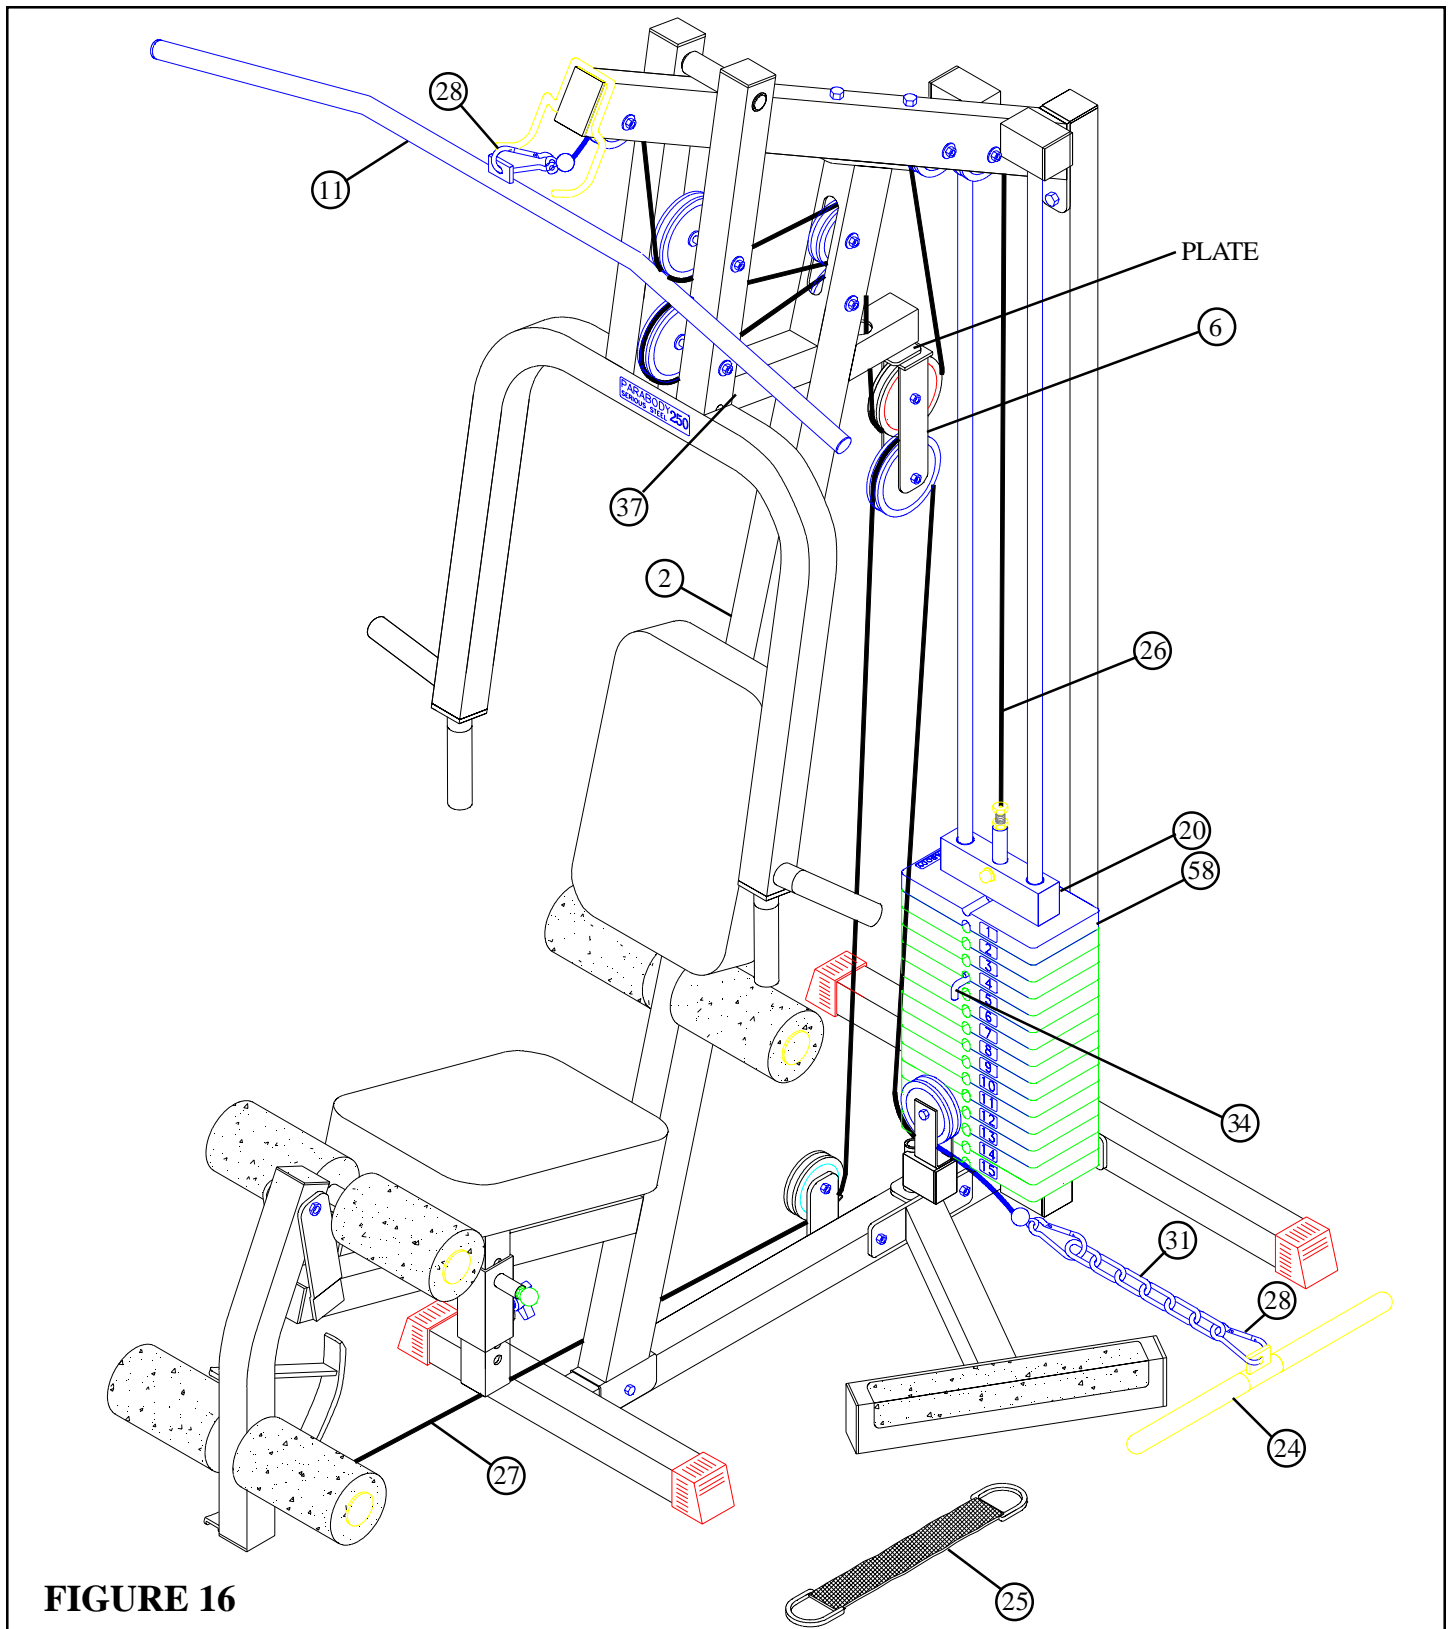

FIGURE 16
- If upon completion of assembly, the HEAD PLATE (20) does not sit on top of the first WEIGHT PLATE (58), push the HEAD PLATE (20) down, insert the WEIGHT STACK PIN (34) and perform several repetitions at the press station. This will relax the cable system and prevent the HEAD PLATE (20) from lifting up. See FIGURE 16.
- If after completing previous step, the HEAD PLATE (20) still does not sit on top of the first WEIGHT PLATE (58) or if there is excess slack in the cable system, adjust the threaded end of the WEIGHT STACK CABLE (26) and the ADJUSTABLE GLIDE (37) accordingly and retighten the jam nut. See FIGURE 16.
- For maximum performance, the HEAD PLATE (20) should just barely sit on the top WEIGHT PLATE (58) and the FLOATING PULLEY BRACKET (6) should firmly contact the PLATE on the FRONT UPRIGHT (2). See FIGURE 16.
- Attach the LAT BAR (11) to the ball end of WEIGHT STACK CABLE (26) using one SNAP LINK (28) as shown in FIGURE 16..
- Attach the LOW ROW BAR (24) or the ANKLE STRAP (25) to the ball end of LEG CURL CABLE (27) using two SNAP LINKS (28) and one 12 LINK CHAIN (31) as shown in FIGURE 16.